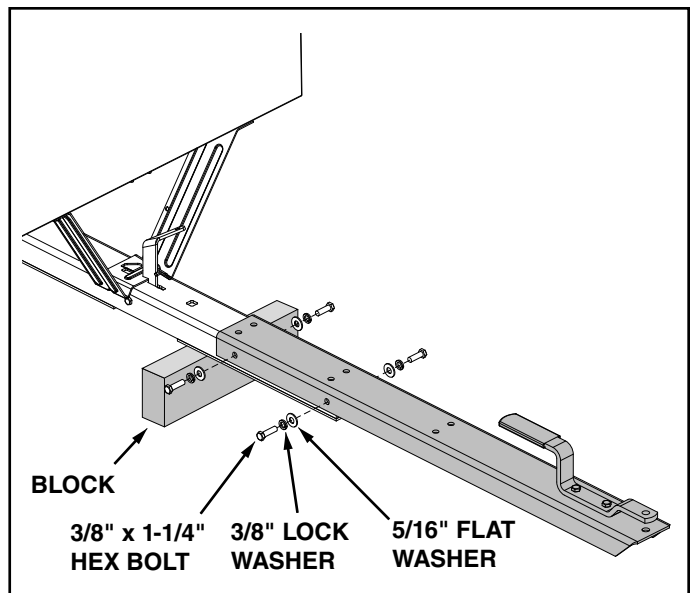

FIGURE 3
- 6. Assemble the front tongue on top of the rear tongue using four 3/8" x 1-1/4" hex bolts, 3/8" lock washers and 5/16" flat washers. See figure 3.